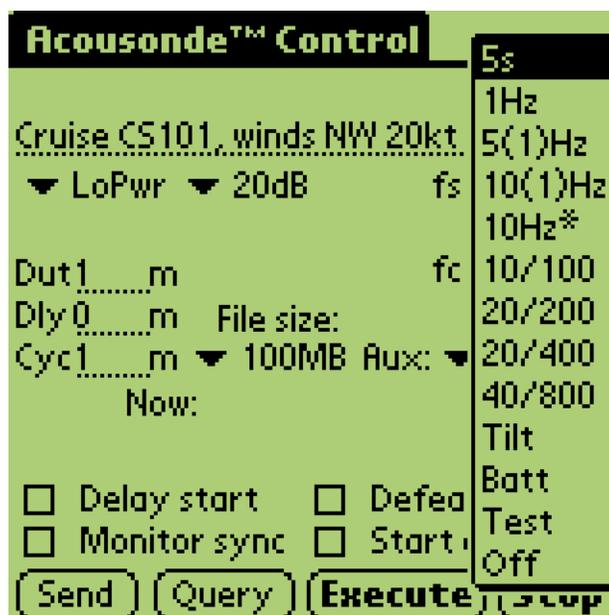

Figure 9. Auxiliary sampling programs available via the PalmOS interface.
Figure 8. Acoustic sampling programs available via the PalmOS interface. The user has requested an acoustic sampling rate of 25000 Hz with a gain of 20 dB, and has filled in the **Site** and **Deployment Title** fields. The auxiliary sampling rate is set for a 5-second period, but other choices are available as shown in Figure 9.
5. Select an **Aux** (auxiliary) sampling program, if one is desired, from the choices shown in Figure 9. Table 1 describes the available auxiliary sampling choices.